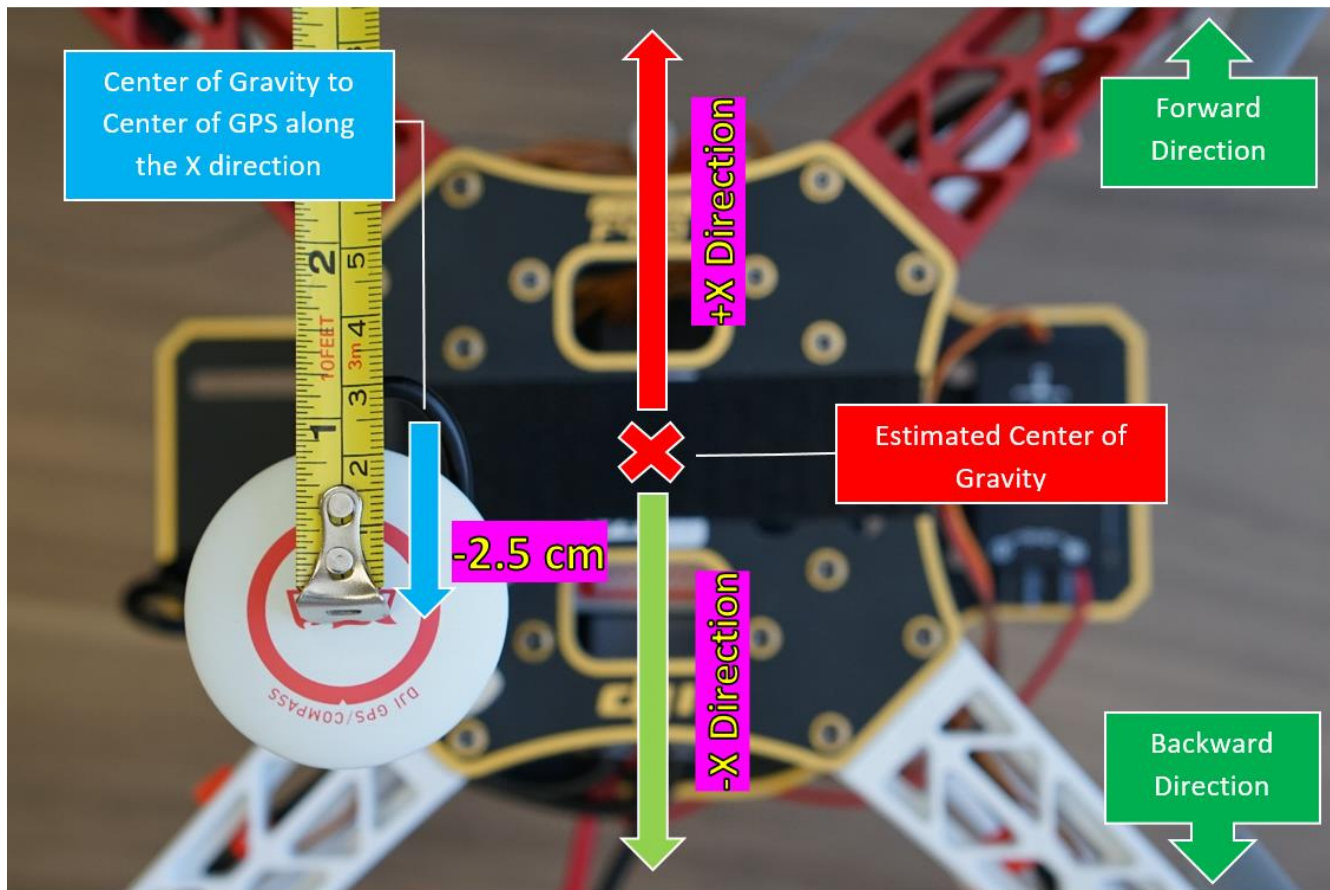

Figure 6: Measuring the X component.
- a. Figure 6 displays an example of the quadcopter seen from a top-down view.